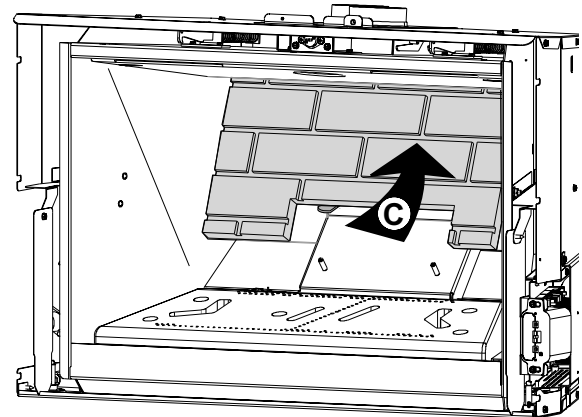

Fig. 7.13
2. Install the Rear Panel (C) up against the back wall, resting on the support tabs. Fig. 7.13.